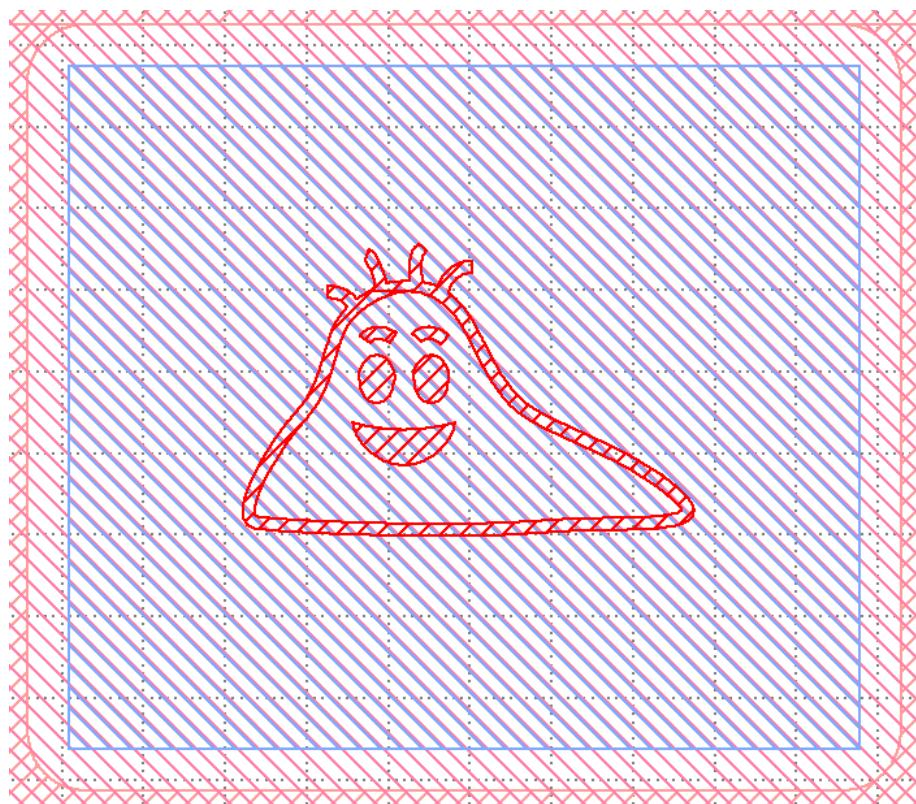

Figure 13: Imported .dxf data within the recommended pattern area.
13. Figure 13 shows the “Happy Cell” positioned within the recommended pattern area of the μ -Slide 8 Well^{high} template.